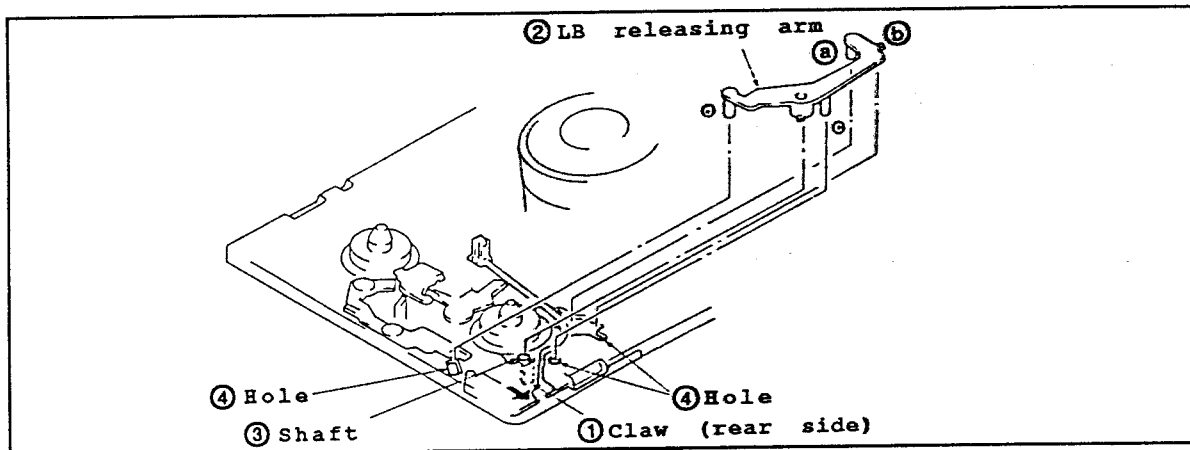

Fig.II-12
- Disassembling (Fig.II-12)
- (1) Take off the LB releasing arm ② while pushing the claw ① in the arrow direction.
- Reassembling (Fig.II-12)
- (1) Install the LB releasing arm ② to the shaft ③ while inserting a, b, c and d to the holes ④, respectively. Then, secure it by hooking the claw ①.